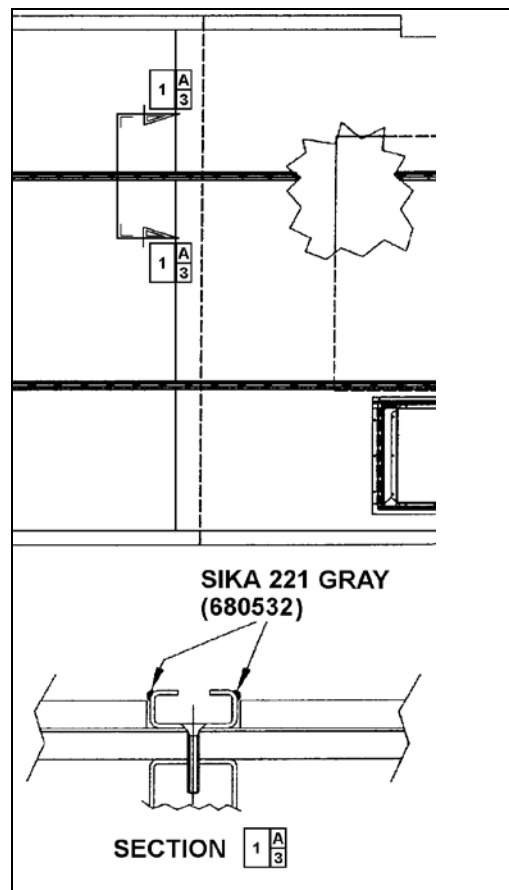

FIGURE 86: APPLICATION OF SIKI 221 GRAY 18641
8. Apply Sikaflex 221 gray sealant (680532) alongside passenger seat fixing tracks (refer to Figure 86).